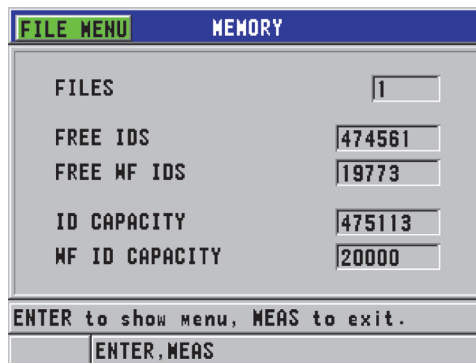

Figure 6-34 The MEMORY status screen
1. Press **[FILE]**, select **MEMORY**, and then press **[ENTER]** to display the **MEMORY** status screen (see Figure 6-34 on page 116). This screen indicates the number of files stored in the internal memory, along with its current capacity.